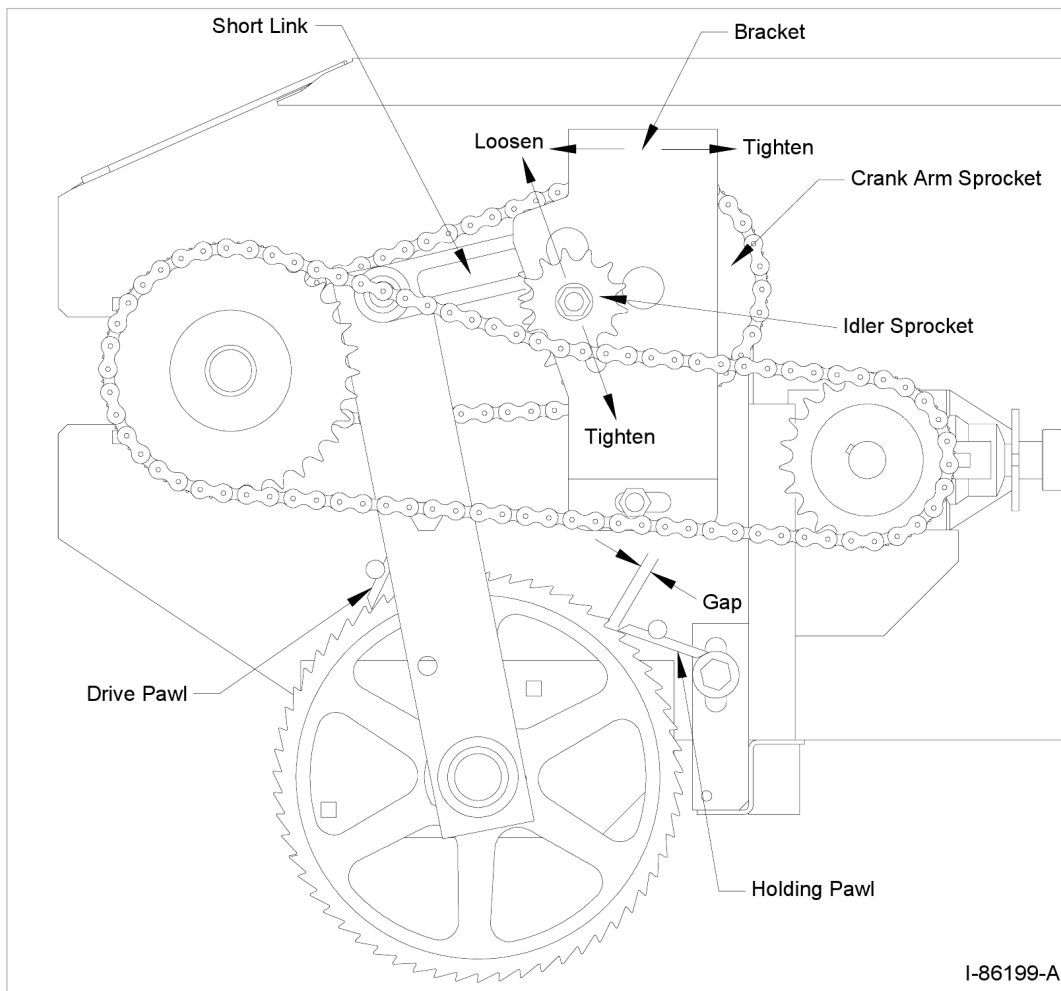

Figure 4B - Adjusting the Holding Pawl and Drive Chains
- Apply chain lube once a month (or as needed) to the drive chains (shown in Figure 4B); use vegetable oil or a common spray lube for chains.
To Reset the Holding Pawl (refer to Figure 4B):
- (c) Adjust the holding pawl to obtain a 1/8" gap between the end of the pawl and bottom of the notch as shown in Figure 4B. Tighten the nut to secure the holding pawl.
Refer to Figure 4B on the previous page for an illustration of the drive chains and related components. The chains should be snug, but not too tight. If the chains are too tight, they may cause excessive wear on the bushings in the crank arm sprocket (resulting in premature failure). If the chains are too loose, they can slip and jump sprocket teeth when the spreader is operating with a full load.
- **Adjust the drive chains** according to Figure 4B and the following guidelines:
- (b) **Ratchet Drive Chain:** adjust the **bracket position** by loosening the two (2) 1/2" bracket bolts and sliding the bracket forward or backward as shown.